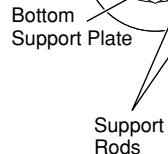

Figure 12
7. When using HomeSaver UltraPro relining pipe to reline a fireplace flue, terminate the liner at the bottom of the chimney flue just above the smoke chamber. Termination is illustrated page 15, Figure 12. As an alternative method of support, a HomeSaver Bottom Plate Leg Support System can be used instead of support rods (see Figure 12, page 15, alternative "A.") Install the four support brackets by bolting to the liner in a position that allows them
Another choice is the Home-Saver Insulation Plug (see Figure 12, alternative "B," page 15). HomeSaver Foil-Face FlexWrap must be layered with refractory cement and tightly packed at the base of the liner to a depth of 6" to form a seal. Make sure there is adequate support at the top of the chimney. If the liner, including insulation, weighs more than 150 pounds, double up on the top plates and top/bottom support brackets.